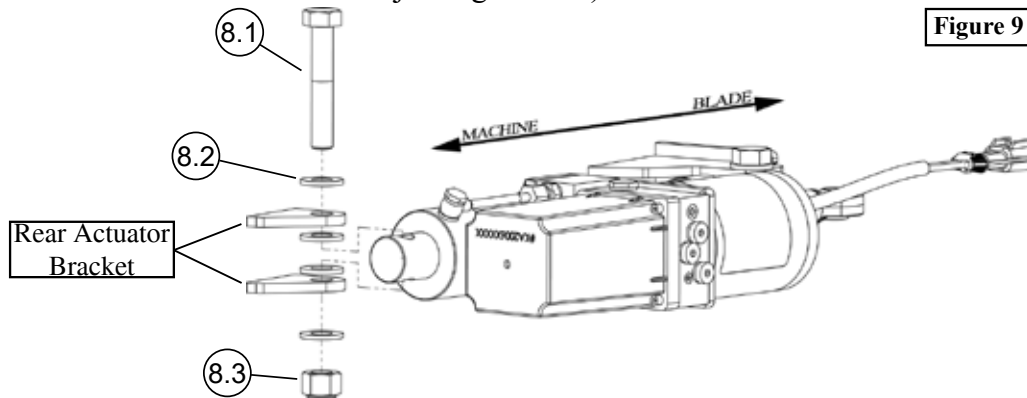

Figure 9
1. Place bolt (8.1) through flat washer (8.2), top tab of rear actuator bracket, flat washer (8.2), Hydraulic Actuator (7), flat washer (8.2), bottom tab of rear actuator bracket, and flat washer (8.2). Place nylock nut (8.3) onto bolt (8.1) as shown in **Figure 9**. (This orientation of hardware is just a guideline)